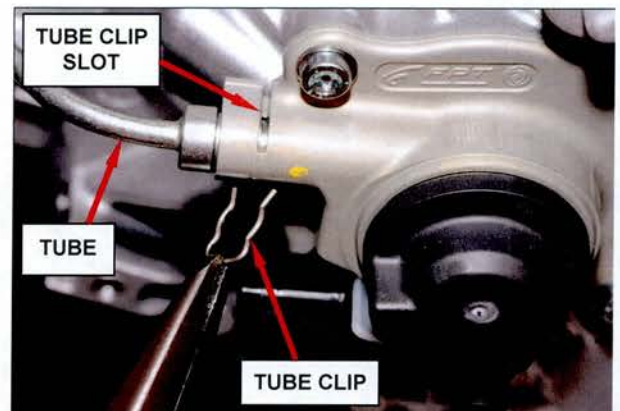

Figure 16 – Hydraulic Tube Retaining Clip
45. Remove and discard the hydraulic tube retaining clip (Figure 16).